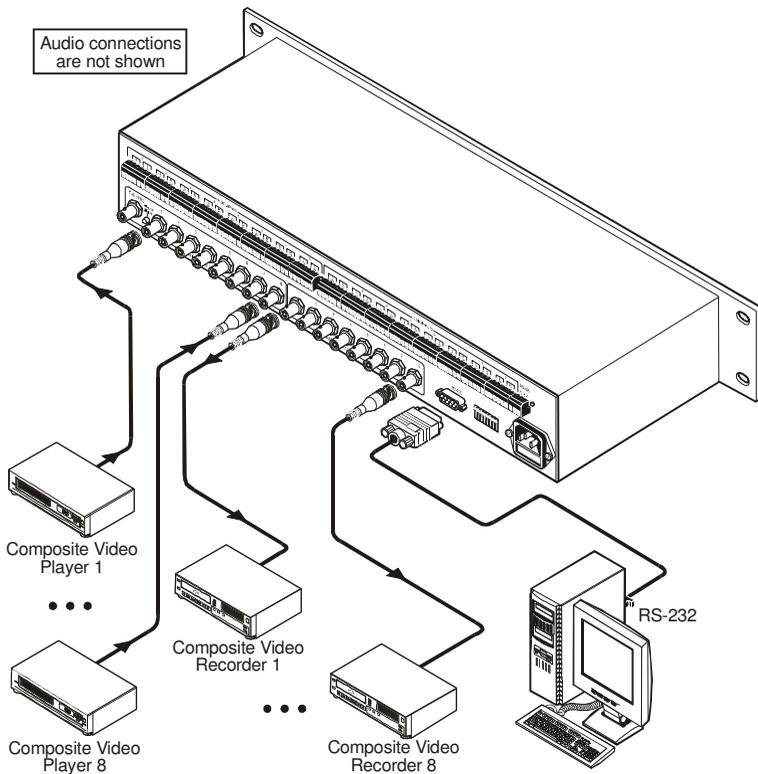

Figure 2: Connecting the Video Sources and Acceptors to the Rear Panel
- Video sources and acceptors, as illustrated in Figure 2